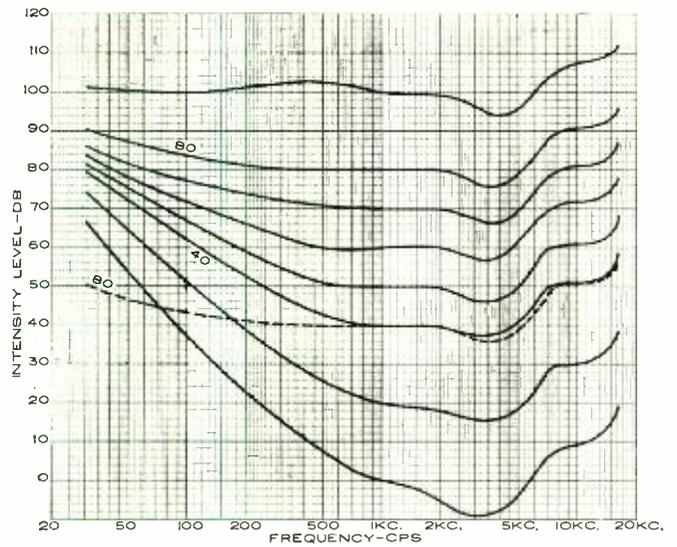
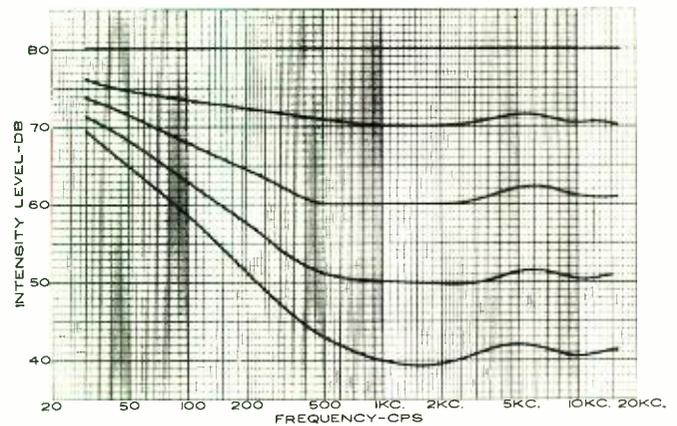

Fig. 1. The Fletcher-Munson curves of equal loudness level.
Fig. 2. Characteristic curves for loudness correction attenuator.
**B**ACK in the early thirties, when the electronic reproduction of sound was in its infancy, the response characteristic of the human ear became an active subject of investigation. In 1933, the "Journal of the American Acoustical Society" published a lengthy and exhaustive paper by Fletcher and Munson containing the results of a study made in this area. Along with a great deal of other information, the paper contained a family of curves describing average human ear response *versus* frequency at different sound pressure levels. This set of curves is familiar to us as the "Fletcher-Munson Curves." (See Fig. 1.) They have been published and re-published over the years and used (sometimes misused) innumerable times. Since the correct application of the data represented by these curves is necessary in order to obtain proper tonal balance in our sound systems, let us investigate them in some detail.
Now that we have established the range in which we are interested, let us continue by considering a hypothetical example: The Philharmonic is performing a recently discovered work that we will entitle "Loud and Equal," in which the melody consists of a succession of tones, all sounding equally loud, running up and down the audio spectrum, with the 1000-cps tone at the 80-db level. In other words, they are creating sound pressures that exactly follow the 80-db loudness contour of Fig. 1. We are listening to the broadcast on FM at the 80-db level—just as loud as the original sound. Since the transmitting equipment, pre-emphasis network, receiving equipment, de-emphasis network, and home audio system are all naturally perfect, with tone controls flat, it sounds just like Philharmonic Hall in the parlor! We like what we hear, so we run right out and buy the record. However, night falls and out of consideration for the neighbors, we turn down the volume to the 40-db level and sit back, expecting to hear that "Equal" piece just as before, but at a nice quiet listening level.
What we have really done is taken sound pressures along the 80-db loudness contour and moved them down to the 40-db level. How does it sound? Terrible! The highs sound fine but over-all it's thin and weak—no bass. By going to Fig. 1 and superimposing the 80-db contour on the 40-db contour we can quickly see why. From 700 cps on up, the curves duplicate each other within a decibel or two, so these tones still sound about equally loud as we go from one to the other. Below 700 cps, however, a pronounced divergence begins to appear. It is apparent that, to the human ear, the loudness of bass sounds decreases faster than the loudness of treble sounds as the actual sound-pressure level is uniformly decreased. At 200 cps, we should have decreased the sound pressure 12 db less than we reduced the 1000-cps tone in order for them still to sound equally loud. At 100 cps the difference is 20 db. At 30 cps it's 30 db—a power difference of one-thousandth times!
Simply enough, it will be flat when set at maximum loudness; then follow the difference between the 80-db contour and each lower contour as the level is reduced; finally reaching the difference between the 80-db and the 40-db contours at the minimum output setting. These characteristics are plotted in Fig. 2. (Note that it is the change in the contours of Fig. 1 that gives us Fig. 2. Do not be fooled by the uniform across-the-board treble
Fig. 1. (A) Basic quantitative leakage current measurements for  $I_{CBO}$ . (B) Basic "go/no-go" leakage current measurement for  $I_{CBO}$ . (C) Improved "go/no-go" leakage current test.